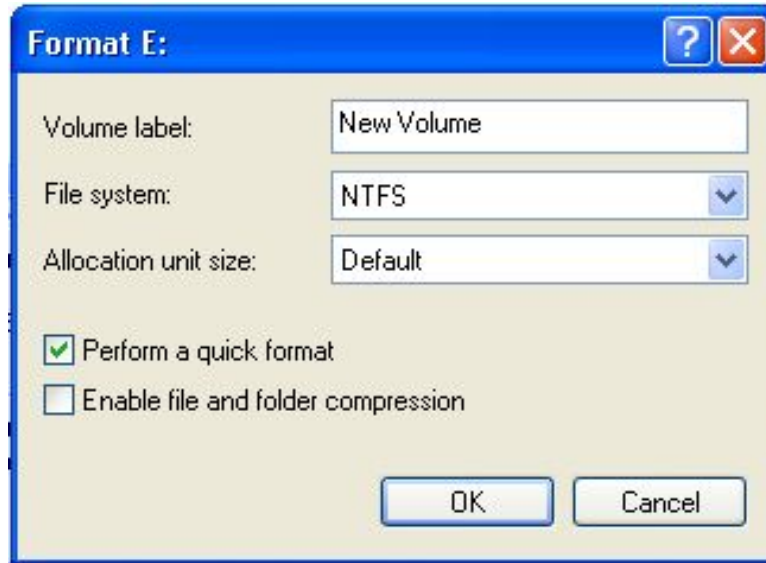

FIGURE 6-36. Format E: Screen.
16. The *Format E:* screen appears. At “Volume label:” give the volume a name. Make sure that the “Perform a quick format” checkbox is checked. See Figure 6-36.